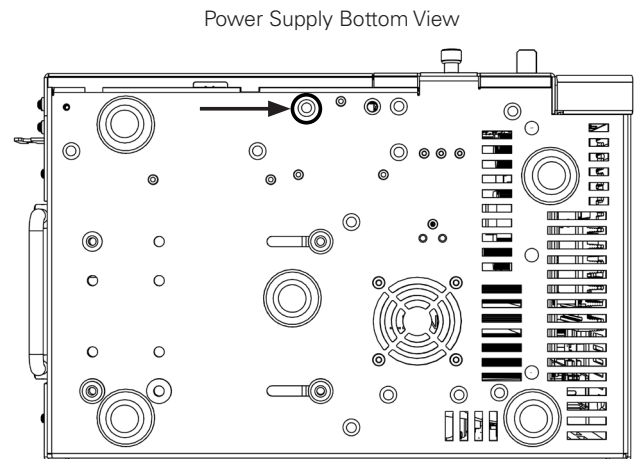

Fig. 2-2, Security Screw Mounting Location
1. Locate the security screw mounting location on the XM3.1-HP™ power supply (see Fig. 2-2).